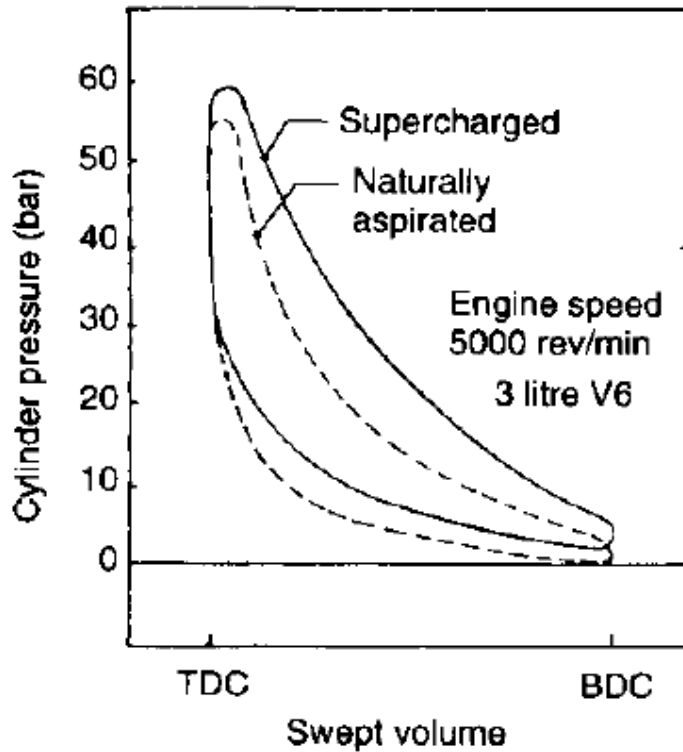

Figure 2
- (c) Explain the comparison of actual naturally aspirated and supercharged engine as shown in the **Figure 2** below. **(10 marks)**